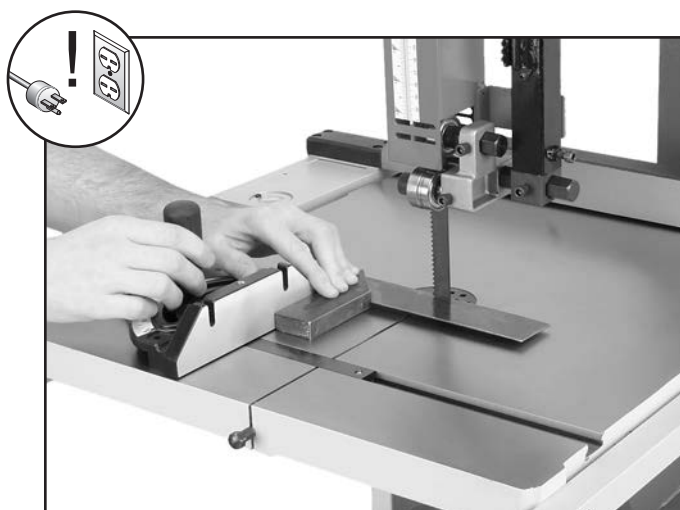

Figure 62. Squaring miter gauge to blade.
2. Use a square with one edge against the face of the miter gauge and the other against the blade side, as shown in **Figure 62**.